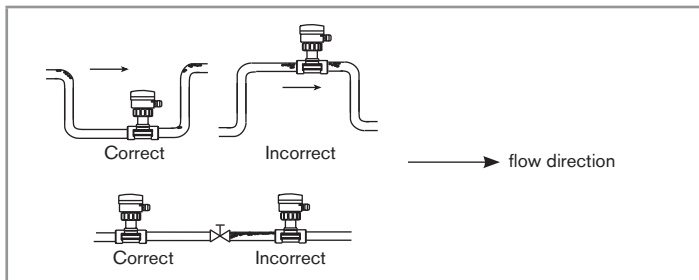

Fig. 11: Air bubbles within the pipe
- Prevent the formation of air bubbles in the pipe in the section around the device (see Fig. 11).